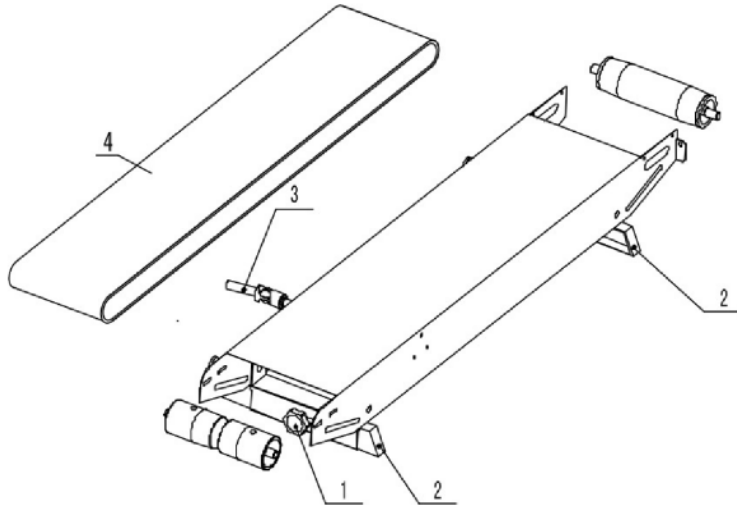

Figure 5. (1) Adjusting Knob, (2) Foot Rest, (3) Gimbal Assembly, (4) Conveyor Belt.
5. Adjust the conveyor position forwards or backwards. Refer to **Figure 5** for knob adjustments. For vertical configuration only, adjust the height of the band sealer appropriate for your bag to be sealed.